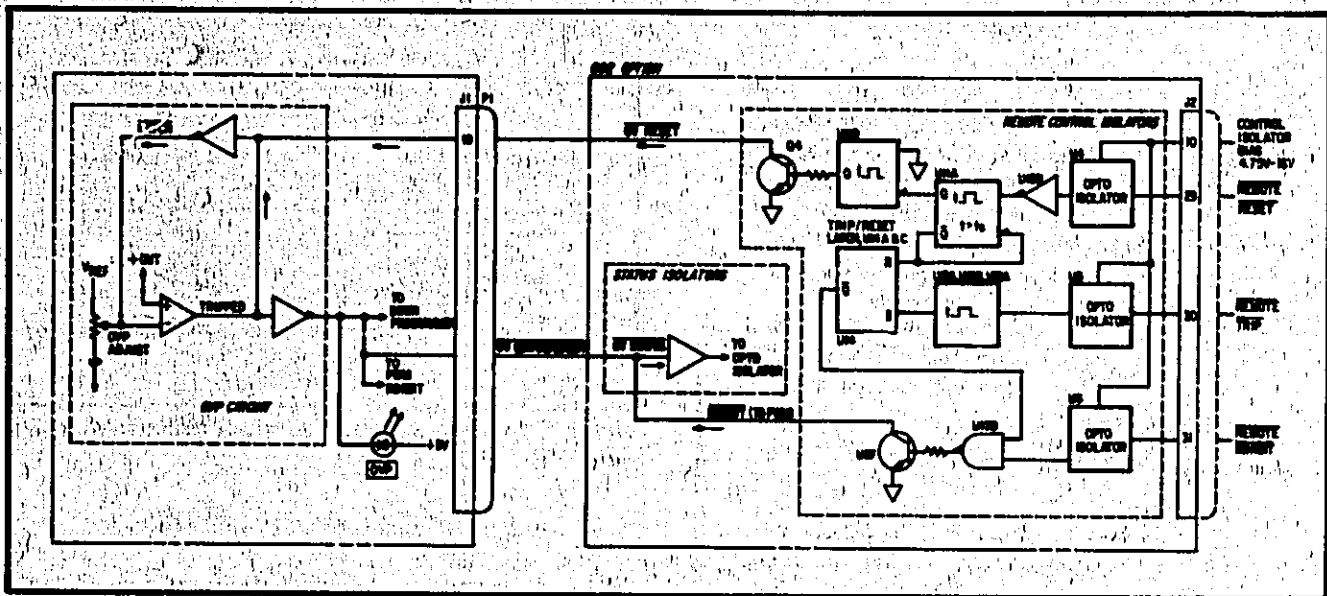

Figure A-7. Remote Control
**A-45** Remote Trip. A negative-going edge applied at input J2-30 (REMOTE TRIP) will shut down the power supply, reducing its output voltage to near zero. For minimum pulse duration and timing considerations with respect to REMOTE RESET, see Table A-1. The following paragraph provides a brief circuit description (see schematic diagram and Figure A-7.)
**A-47** Remote Reset. A negative-going edge applied at input J2-29 (REMOTE RESET) will return the supply to its initial state following a system-initiated shutdown (REMOTE TRIP) or an OVP shutdown caused by a temporary overvoltage condition. For minimum pulse duration and timing considerations with respect to REMOTE TRIP, see Table A-1. The following paragraphs provide a brief description of this circuit (see schematic diagram and Figure A-7).
**A-50 Alternate Method of Remote Control.** The REMOTE INHIBIT input, J2-31, provides an alternate method of remote shutdown. By maintaining a low logic level at this input, the supply's output will be inhibited until REMOTE INHIBIT is returned to its initial high state. The following paragraph provides a brief description of this circuit (see schematic diagram and Figure A-7).